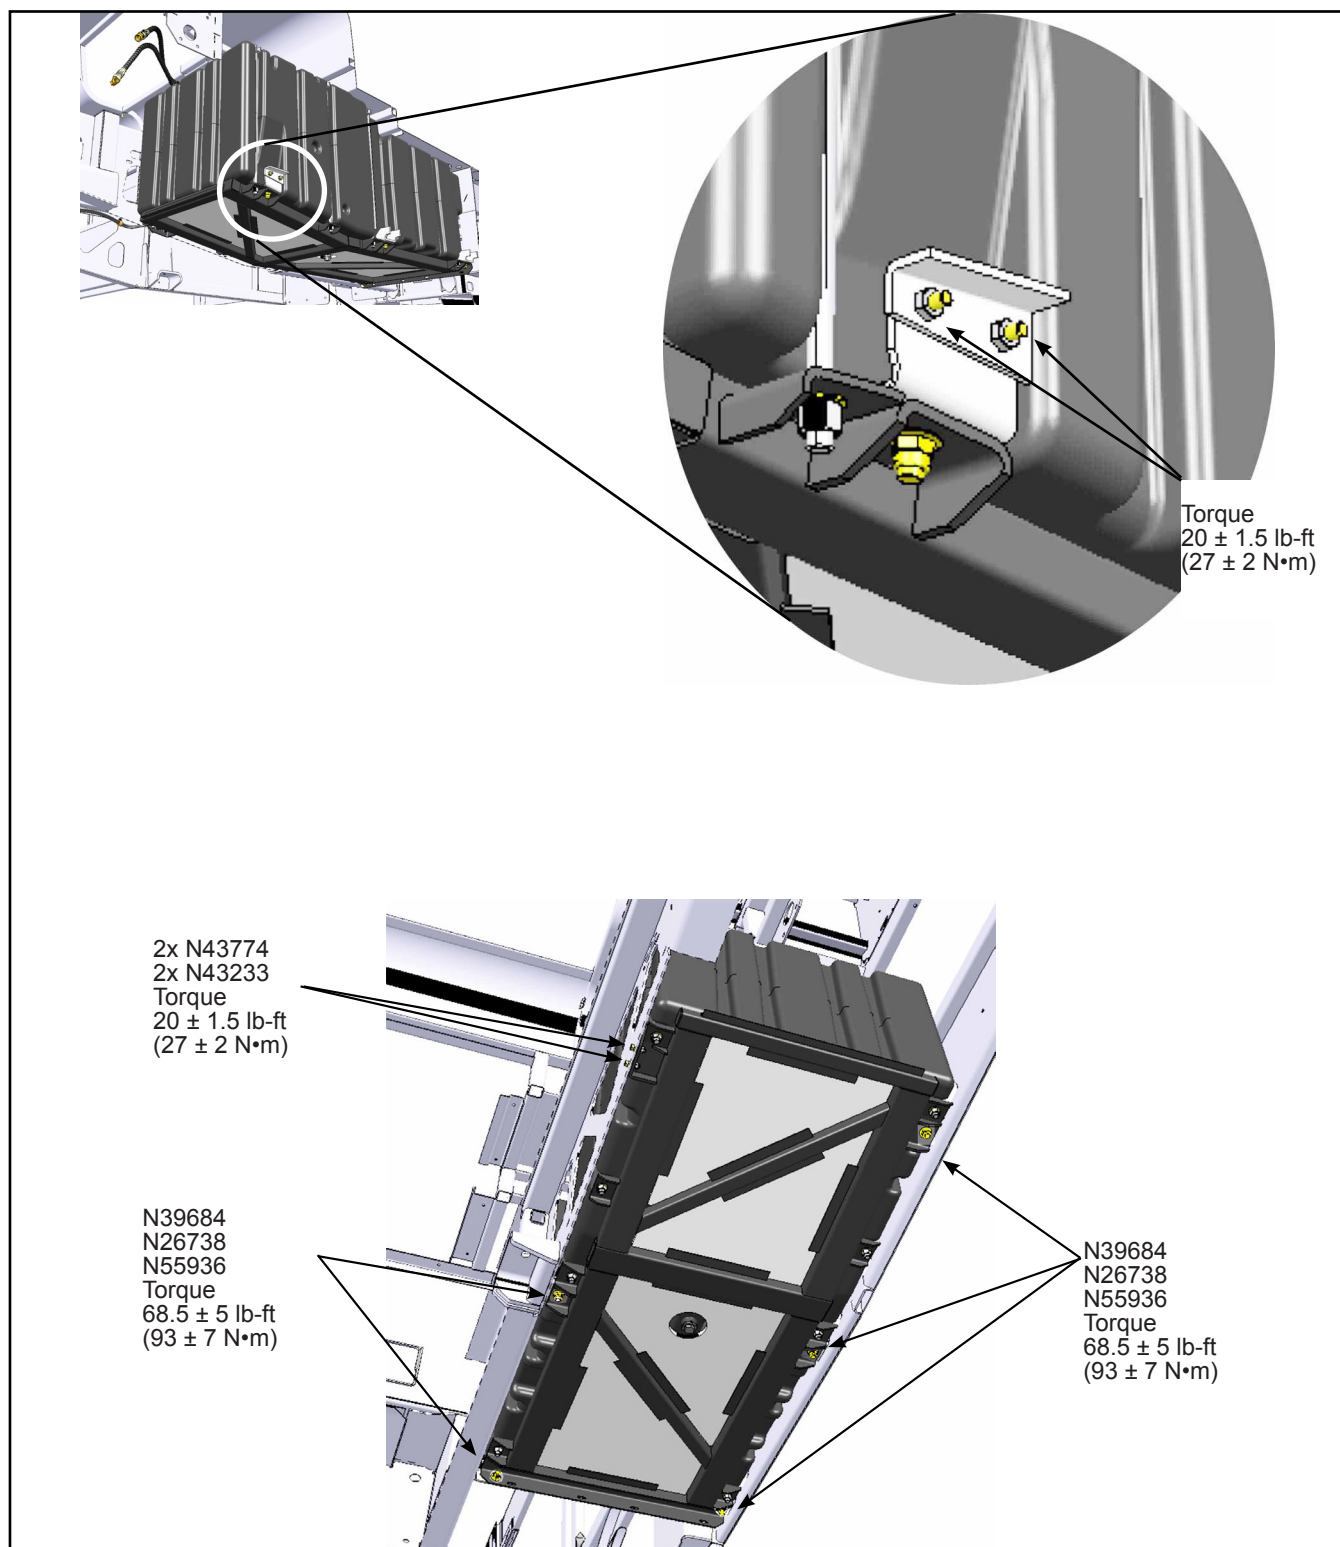

Figure 19 - Torque Values for Fuel Tank Assembly
- 1.32. install the new hardware to hold the cradle to the structure. Tighten the fuel tank assembly to the torques specified in Figure 19.